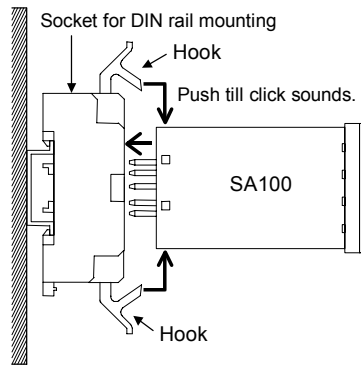

Fig. 2
3. Secure the instrument by locking it with the hooks at the top and bottom of the socket. (Fig. 2)